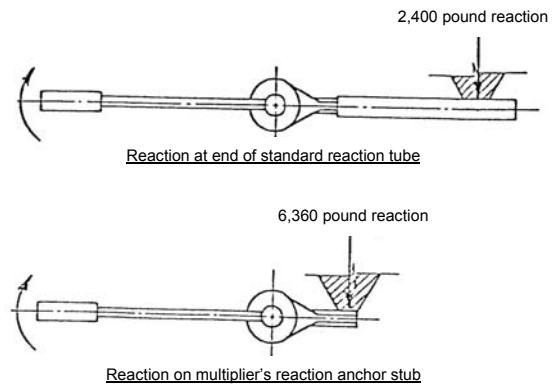

Figure 1
- 2.4 Determine where the reaction anchor forces are going to take place (e.g. against a flange or over an adjacent bolt). Make sure that this point can withstand the torque tool's reaction forces. For example consider a 3,200 Ft-Lb. torque multiplier, with reaction near the end of its anchor stub (figure 1). This will produce a reaction force of about 6,400 pounds. By moving the reaction to the end of the anchor tube, the force is reduced to about 2,400 pounds. Keeping the reaction point tangent to the rotation of the torque output is necessary to prevent the resultant forces from increasing even more (figures 2 and 3).